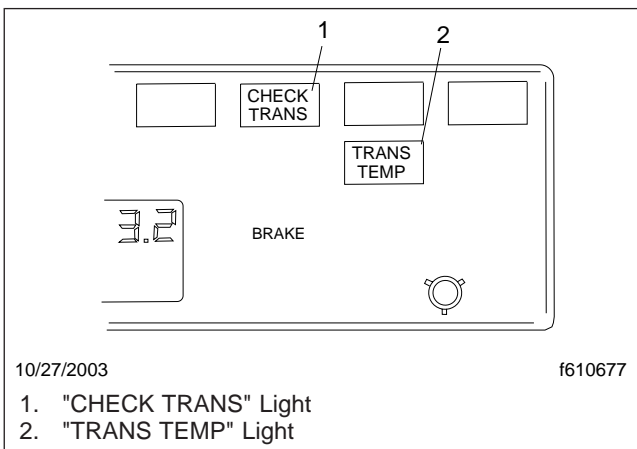

Fig. 8.7, Telltale Lights
1. With the parking brake set, select neutral (N) by moving the selector switch to the N position.
2. With the transmission in neutral, turn on the ignition switch. The "CHECK TRANS" and "TRANS TEMP" telltale lights come on and go out again (bulb check). See Fig. 8.7.